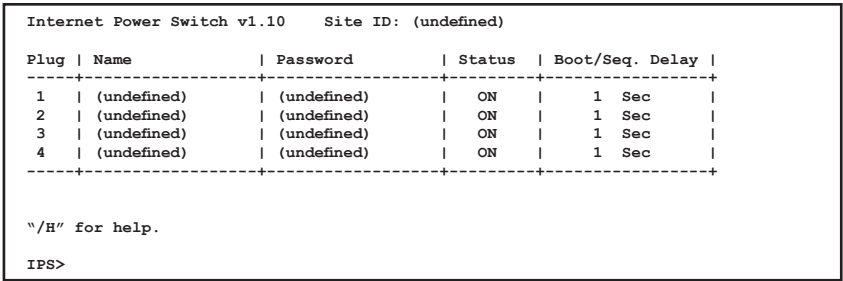

Figure 3.2: Plug Status Screen - Text Interface
- i. **Via Telnet:** Start your Telnet program, then Telnet to the IPS's default IP address (192.168.168.168). The IPS Plug Status Screen (Figure 3.2) should then be displayed.
- ii. **Via Local PC:** Start your communications program (e.g., Hyperterminal) and then press **[Enter]**. The IPS Plug Status Screen will be displayed as shown in Figure 3.2. Note that the default communications parameters for the Console Port are 9600 bps, No Parity, 8 data bits, One stop bit.